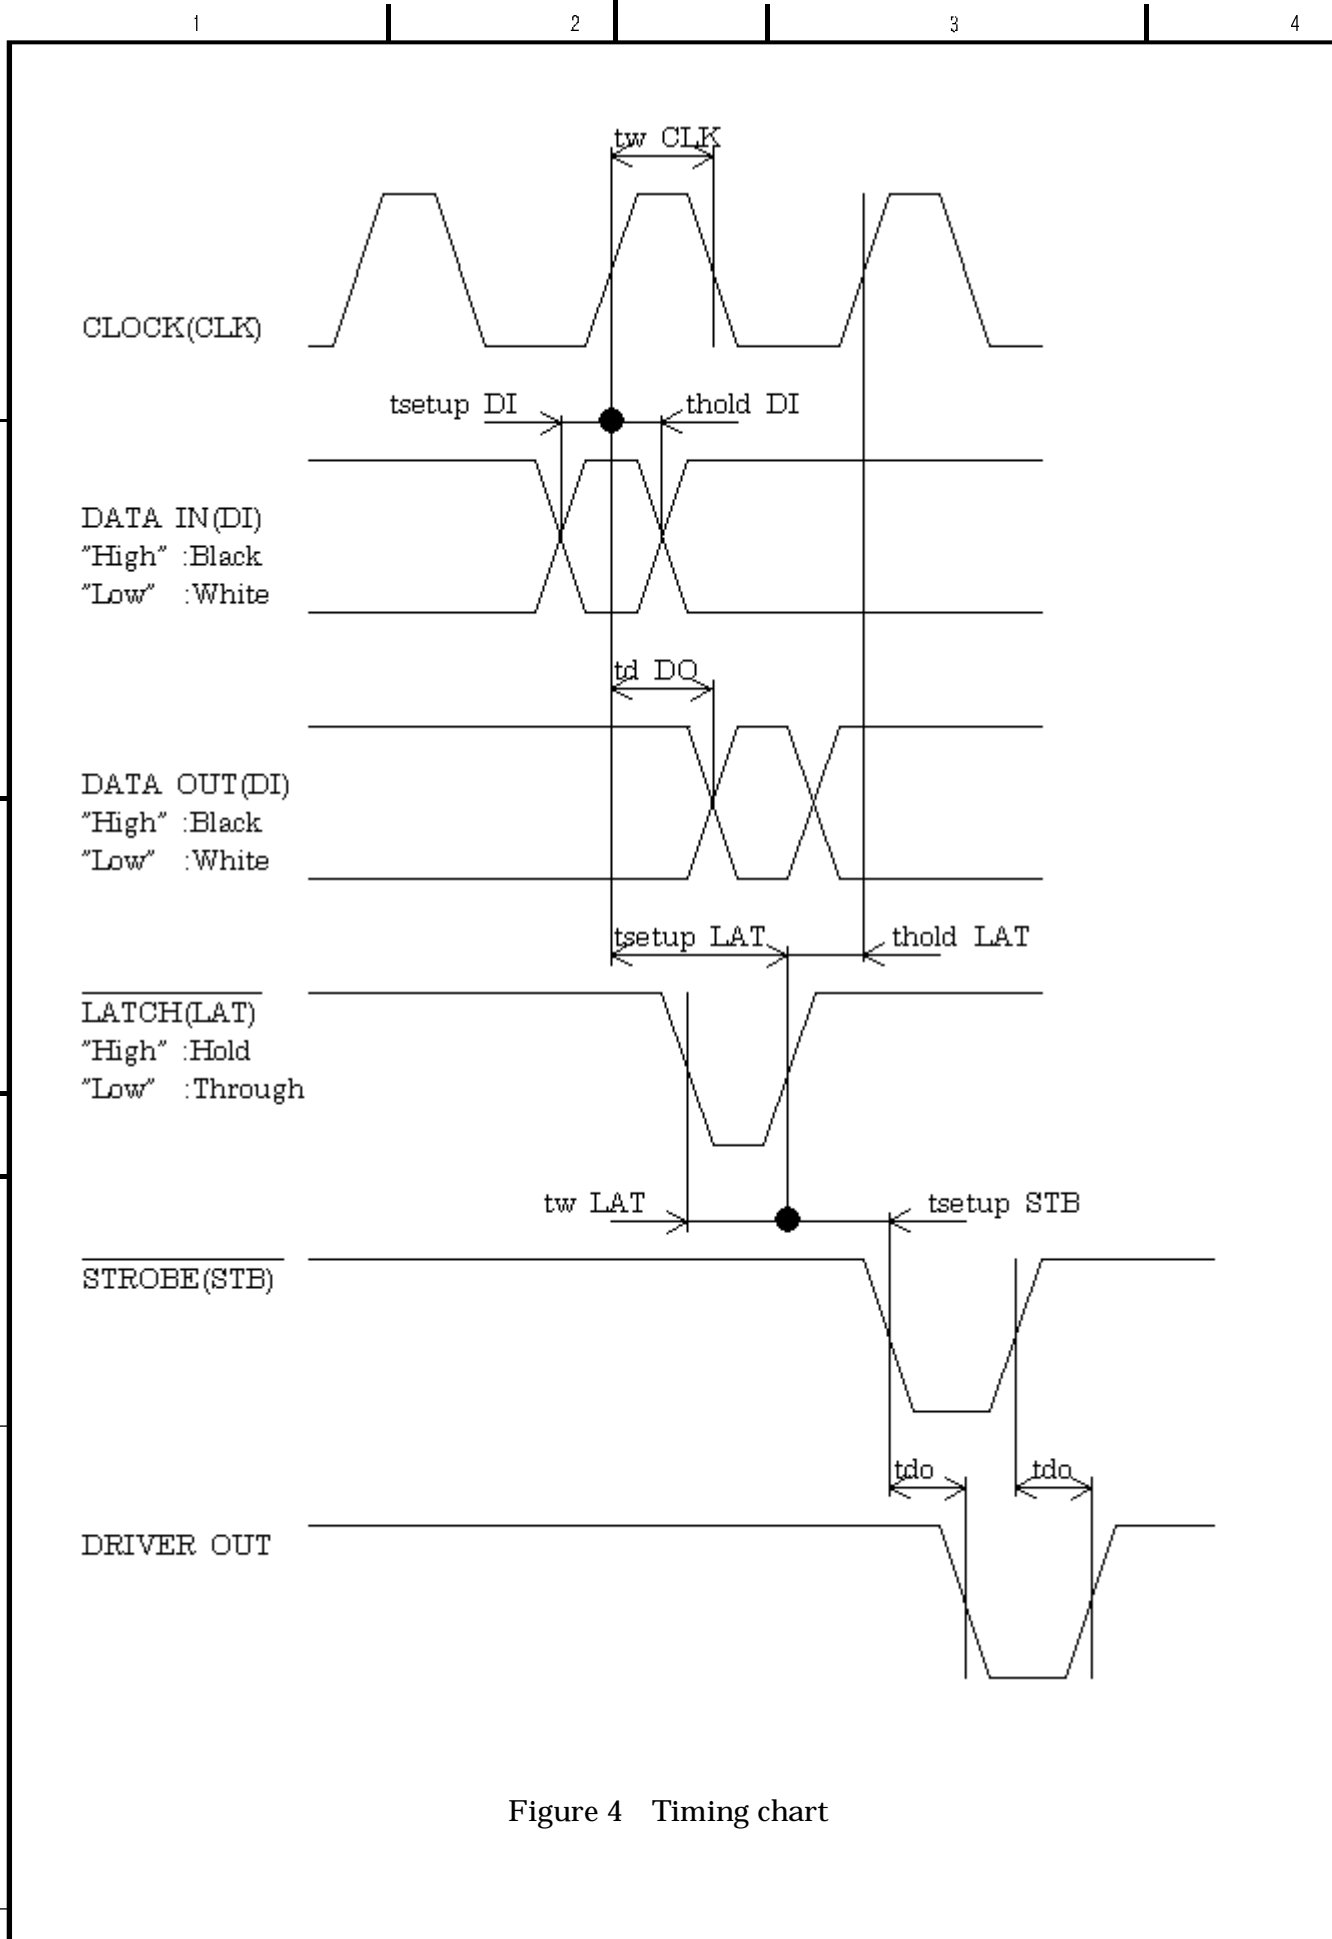

Figure 4 Timing chart
- 2) Timing chart : Figure 4
| Clock frequency | fCLK | | | 4 | MHz | Figure 4 |